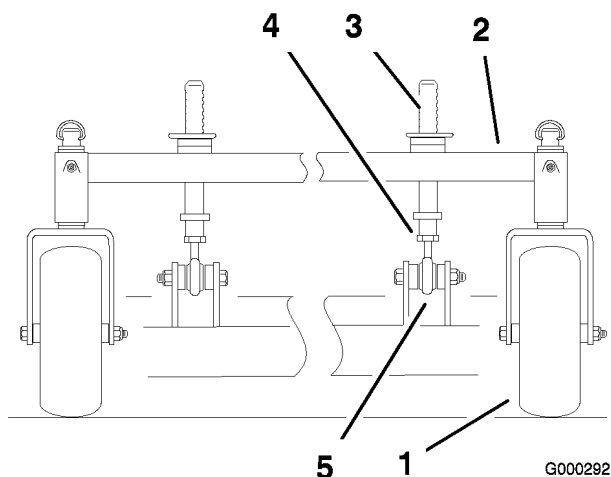

Figure 64
1. To change the front-to-rear pitch, the front height-of-cut posts can be adjusted (Figure 64).
2. To raise the front of the deck, loosen jam nut and rotate the front pin clockwise (Figure 64).
3. To lower the front of the deck, loosen jam nut and rotate the front pin counter clockwise (Figure 64).
6. Tighten the jam nuts (Figure 64).